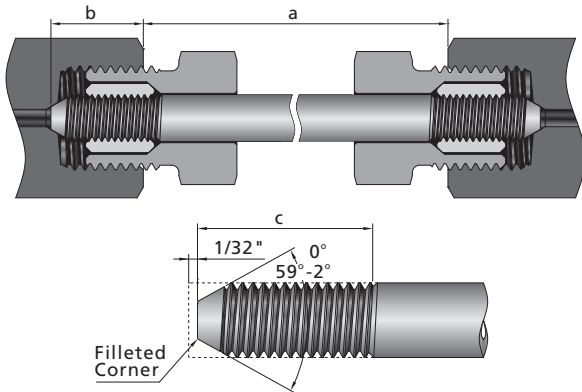
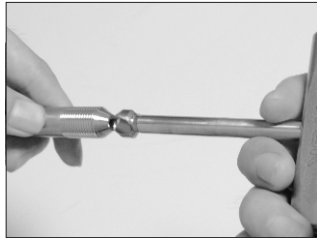

Fig.1-1
Fig.2-9
1. Cut tubing to the desired length. (Fig. 1-1)
① See Fig.1-1.
② Start to count the number of turns when threading die bites the tubing.
9. Deburr the edge of inner hole and clean the tubing. (Fig. 2-9)